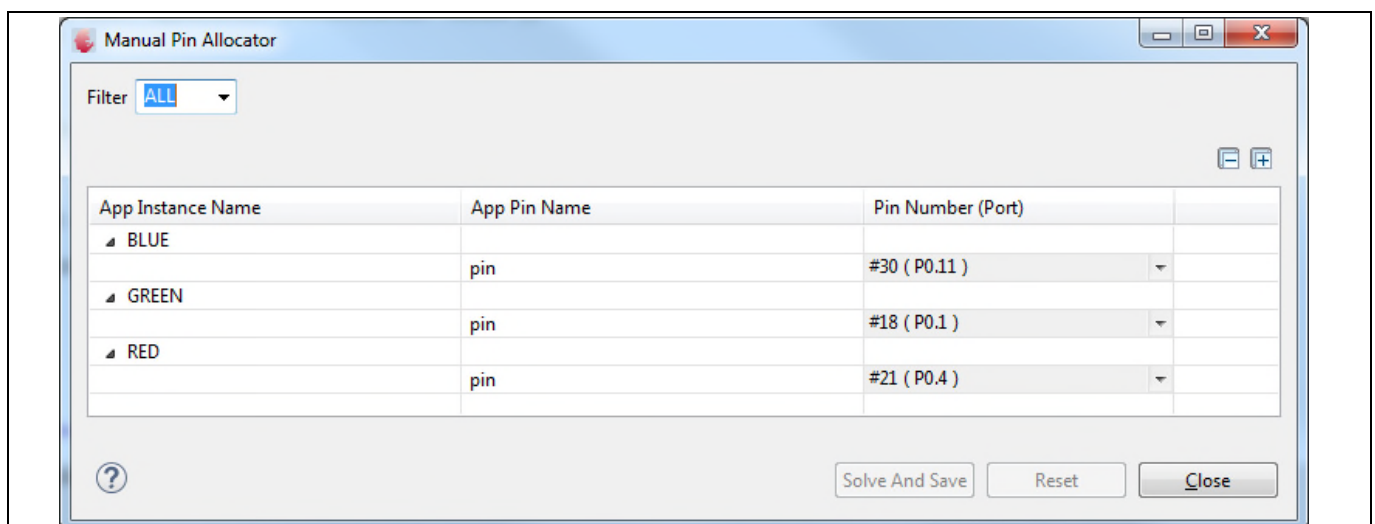

Figure 15 Manual pin assignment for PDM_BCCU APPs
6. Manually assign pins to the renamed PDM_BCCU APP instances (Figure 15).